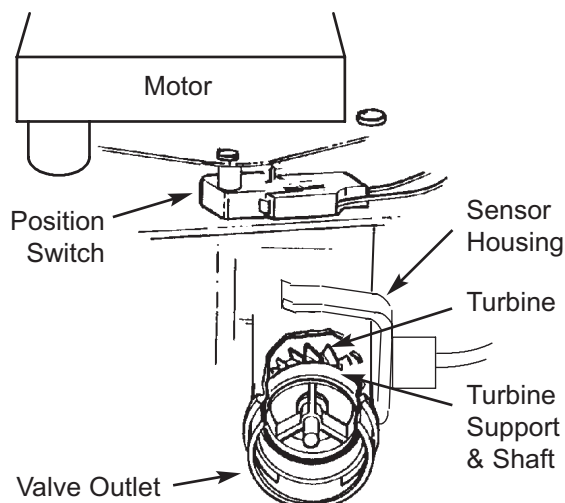

FIG. 45
**TURBINE OPERATION:** If no water is flowing through the softener, the turbine indicator displays three zeros. When water is flowing, a 000 to 140 count repeats for each gallon (3.8 liters) of water passing through the turbine. To check for positive operation of the turbine if zeros are shown, open a nearby soft water faucet and observe the turbine count. If you don't get a reading in the display with faucet open, pull the sensor housing from the valve outlet port (see Fig. 45). Pass